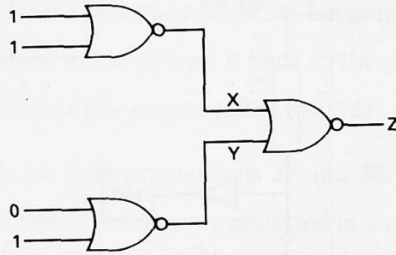

Figure C83
- 33(R)** The four inputs, 1 = high and 0 = low, to a pair of two-input NOR gates are as shown in figure C83.